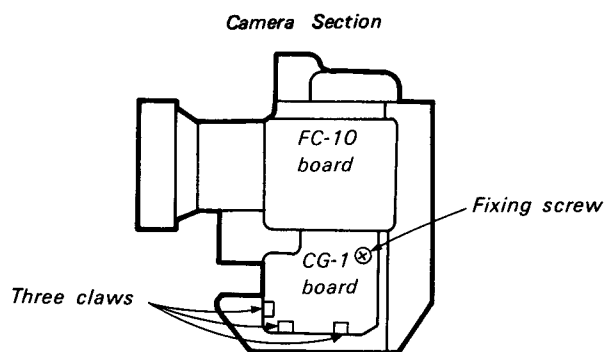
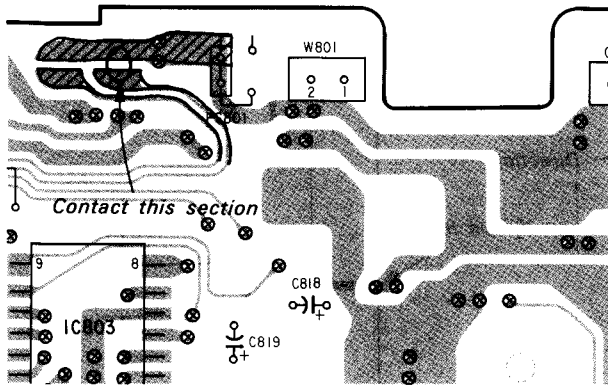

Fig. 1-4.
Fig. 1-5.
- 2) Remove CG-1 board in Fig. 1-4 fixing screw and three claws, then pull CG-1 board down. Contact Pin ④ of IC802 to GND (at the spot specified in Fig. 1-5) and set to ALIGNMENT mode.